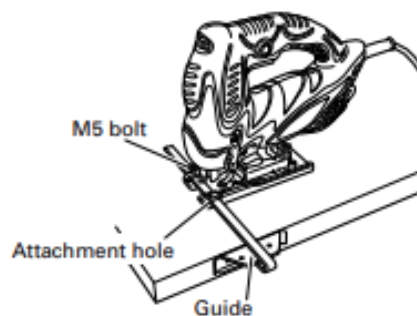

Fig. 11
(3) Attach the guide by passing it through the attachment hole on the base and tighten the M5 bolt. (Fig. 11)
To ensure accurate cutting when using the Guide (Fig.11), always set the orbital position to "0".